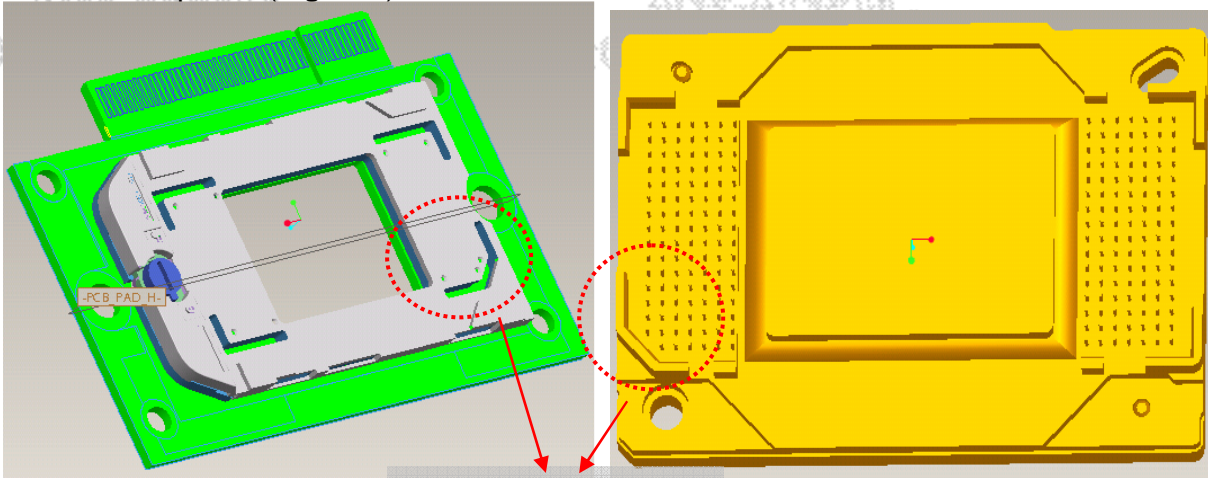

Fig. 5-1
5.1. Judge Chip B/D and DMD alignment keying first (Fig. 5-1, 5-2).